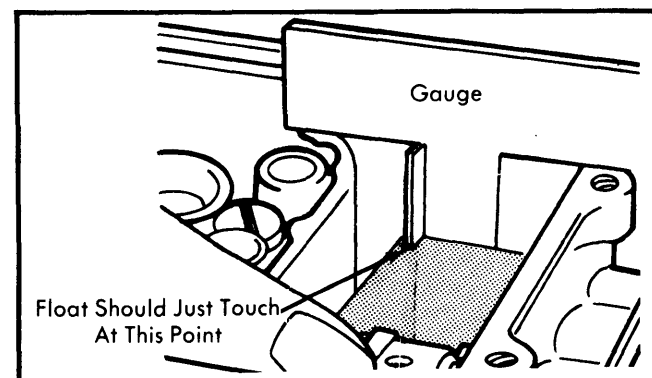

Fig. 2 Adjusting Float Level (Dry Setting)
**CAUTION** — Do not allow float tab to contact needle while making float adjustment as Viton needle tip may be damaged. See Fig. 2.